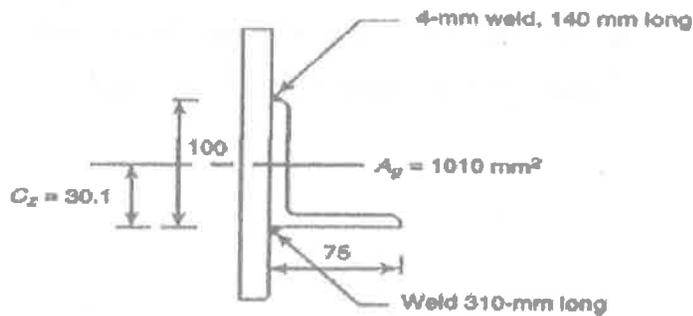

Fig. 4
- (b) Determine the tensile strength of a roof truss diagonal $100 \times 75 \times 6$ mm, $f_y = 250$ MPa connected to the gusset plate by 4 mm welds in Fig. 4. 8